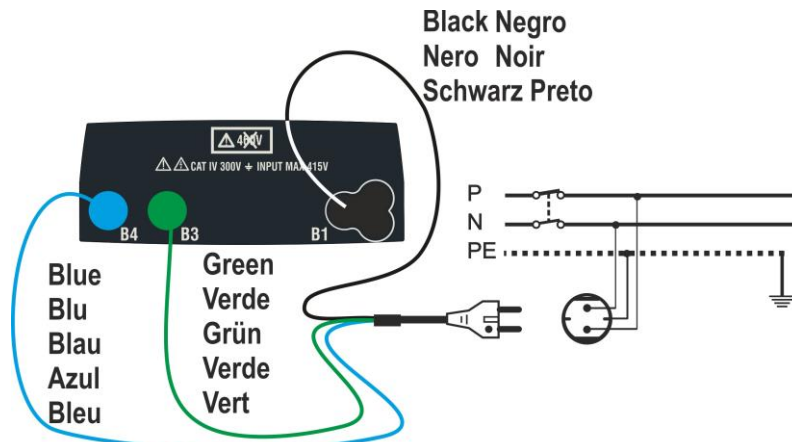
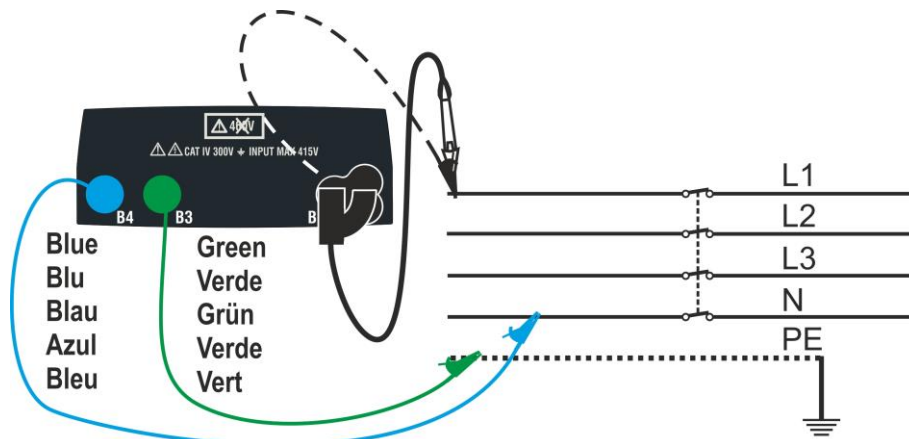

Fig. 8: Instrument connection through mains plug
Fig. 9: Instrument connection by means of single cables and remote switch probe
2. Insert the green, blue and black connectors of the three-pin plug cable into the corresponding inputs B1, B3 and B4 of the instrument. As an alternative, use the single cables and apply the relevant alligator clips to the free ends of the cables. It is also possible to use the remote switch probe by inserting its multipolar connector into the input B1. Connect the plug, the alligator clips or the remote switch probe to the electrical mains according to Fig. 8 or Fig. 9.